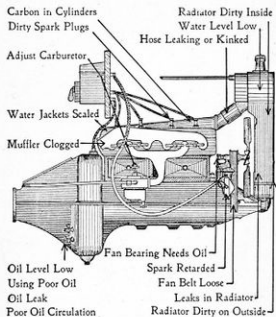

Figure 95.—Troubles Causing Overheating of Engine.
4. Engine overheats. Figure 95.